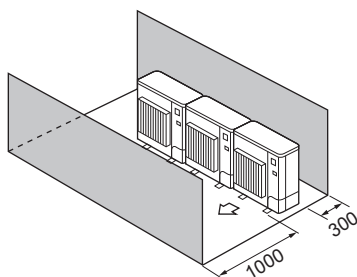

Fig. 3-15
- ④ Obstacles at front and rear only (Fig. 3-15)